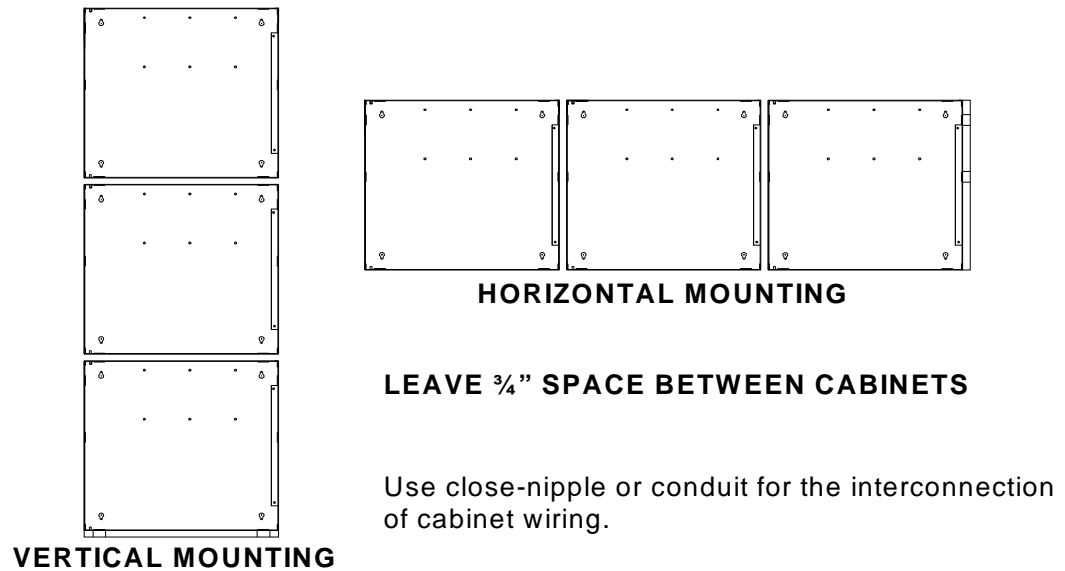
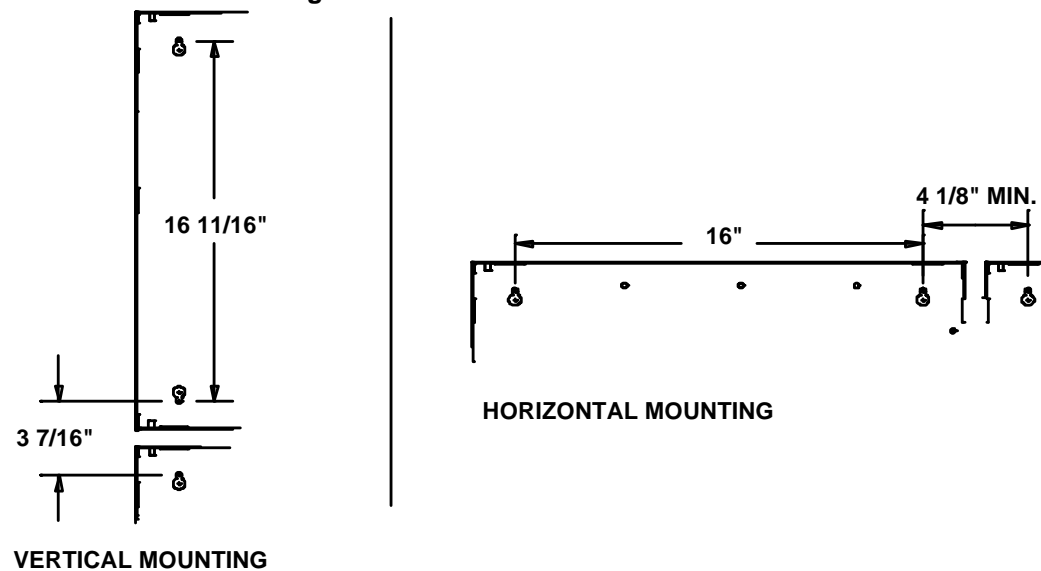

Figure 2.6.1 INCC-E Backbox Installation
Figure 2.6.2 INCC-E Backbox Installation
2. Remove the 1" L diameter knockouts from the adjacent boxes prior to mounting to permit wiring from box to box and to peripheral devices in the field. Refer to Figure 2.6.1 and Figure 2.6.2.